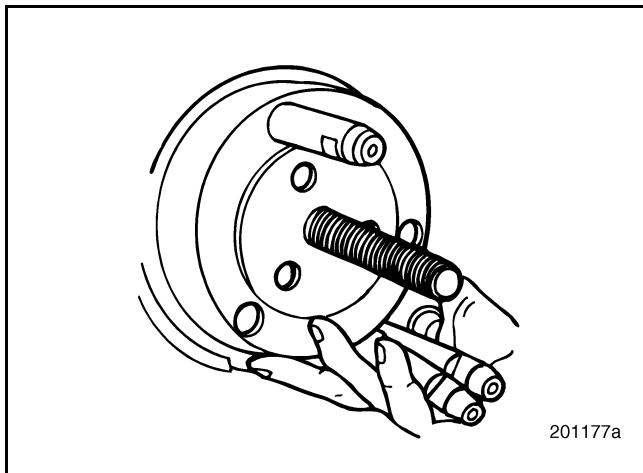

Figure 343 — Adapter Plate J 37716-B Installation
- Using the three guide pins, attach the adapter plate to the crankshaft flange. Refer to Figure 343.